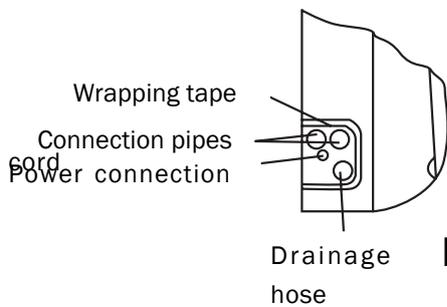

Fig. 8
2. Wrap the piping and wiring and pull them through the cut-off-tailings hole (Fig.8).